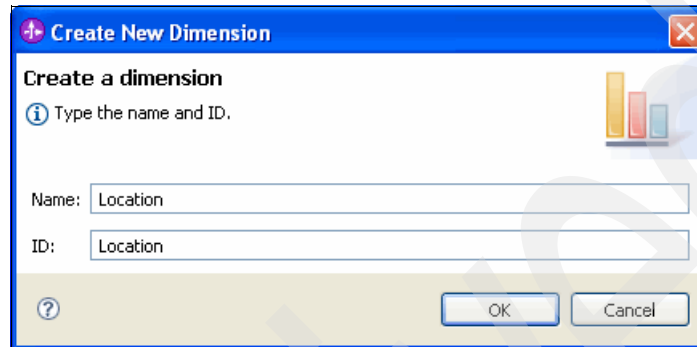

Figure 8-113 Setting the dimension name
3. In the Create New Dimension window (Figure 8-113), for Name, type Location and click **OK**.